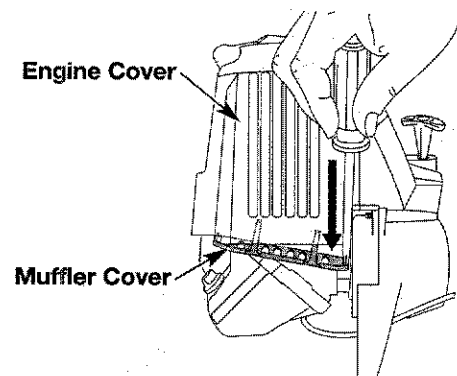

Fig. 49
1. Remove the muffler cover by pressing down on the corner with a flat blade screwdriver (Fig. 49). Slide the notches on the sides of the muffler cover over the tabs on the engine cover and remove
14. Replace the muffler cover. Slip the long tabs on the muffler cover into the engine cover. Slide the notches on the side of the muffler cover over the tabs on the engine cover and snap into place (Fig. 49, Pg. 23).